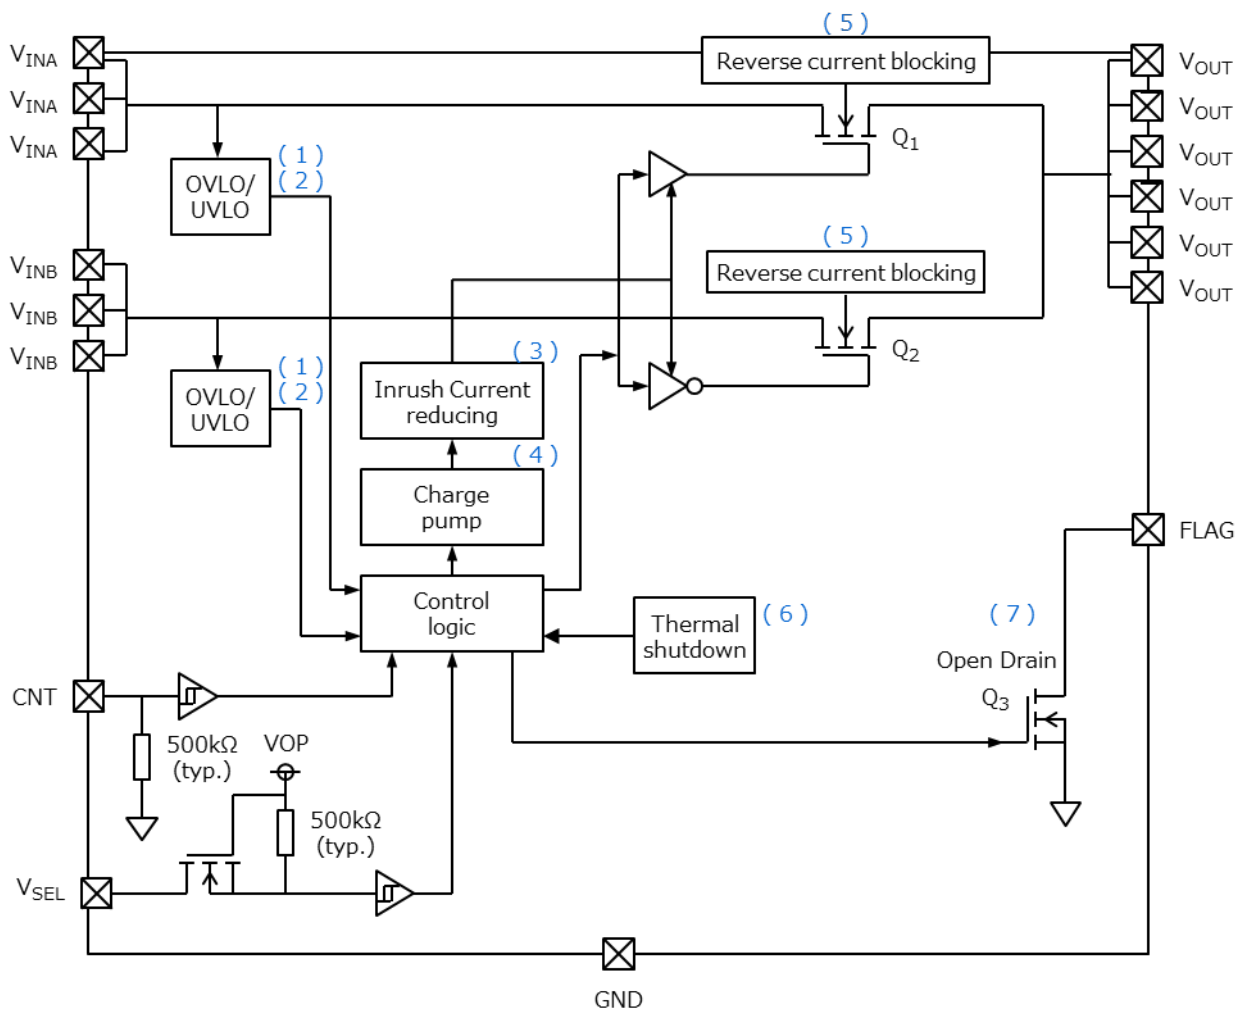

Figure 4.1 Block diagram of the TCK32*G
4.1. Overvoltage lockout (OVLO) circuit [Figure 4.1(1)]
4.2. Undervoltage lockout (UVLO) circuit [Figure 4.1(2)]
4.3. Inrush current limiting (slew rate control) circuit [Figure 4.1(3)]
4.4. Charge pump circuit [Figure 4.1(4)]
4.5. Reverse current blocking circuit [Figure 4.1(5)]
4.6. Thermal shutdown (TSD) circuit [Figure 4.1(6)]
4.7. FLAG output circuit [Figure 4.1(7)]